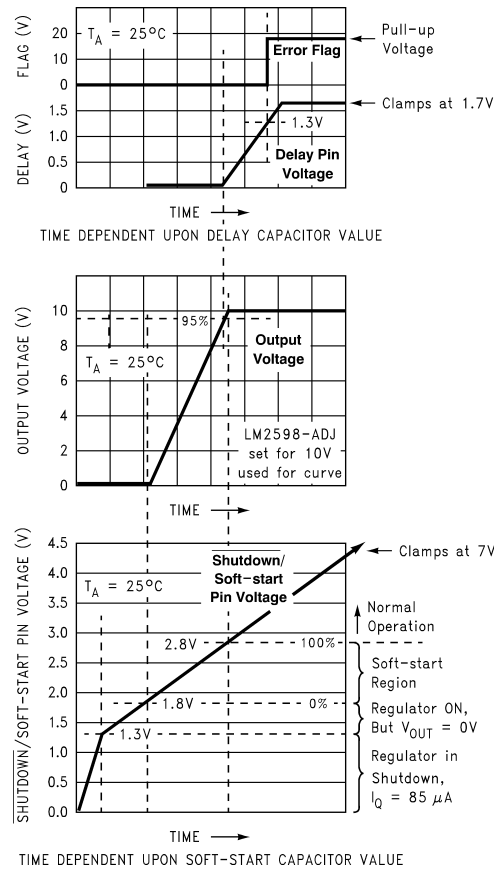
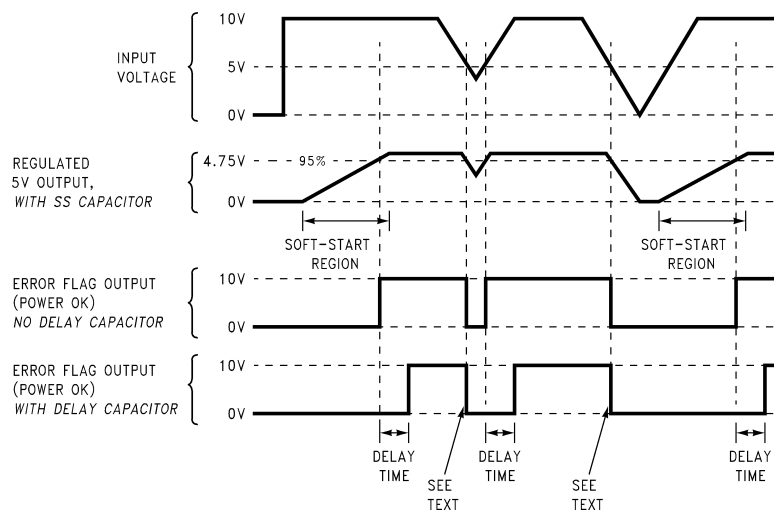

Figure 30. Soft-start, Delay, Error, Output
Figure 31. Timing Diagram for 5V Output
C_{SS} — A capacitor on this pin provides the regulator with a Soft-start feature (slow start-up). When the DC input voltage is first applied to the regulator, or when the Shutdown /Soft-start pin is allowed to go high, a constant current (approximately 5 μ A) begins charging this capacitor. As the capacitor voltage rises, the regulator goes through four operating regions (See the bottom curve in Figure 30).
- Soft-start Region.** When the $\overline{\text{SD}}$ /SS pin voltage is between 1.8V and 2.8V (@ 25°C), the regulator is in a Soft-start condition. The switch (Pin 1) duty cycle initially starts out very low, with narrow pulses and gradually get wider as the capacitor $\overline{\text{SD}}$ /SS pin ramps up towards 2.8V. As the duty cycle increases, the output voltage also increases at a controlled ramp up. See the center curve in Figure 30. The input supply current requirement also starts out at a low level for the narrow pulses and ramp up in a controlled manner. This is a very useful feature in some switcher topologies that require large startup currents (such as the inverting configuration) which can load down the input power supply.
Note: The lower curve shown in Figure 30 shows the Soft-start region from 0% to 100%. This is not the duty cycle percentage, but the output voltage percentage. Also, the Soft-start voltage range has a negative temperature coefficient associated with it. See the Soft-start curve in the Electrical Characteristics section.
C_{DELAY} — Provides delay for the error flag output. See the upper curve in Figure 30, and also refer to timing diagrams in Figure 31. A capacitor on this pin provides a time delay between the time the regulated output voltage (when it is increasing in value) reaches 95% of the nominal output voltage, and the time the error flag output goes high. A 3 μ A constant current from the delay pin charges the delay capacitor resulting in a voltage ramp. When this voltage reaches a threshold of approximately 1.3V, the open collector error flag output (or power OK) goes high. This signal can be used to indicate that the regulated output has reached the correct voltage and has stabilized.